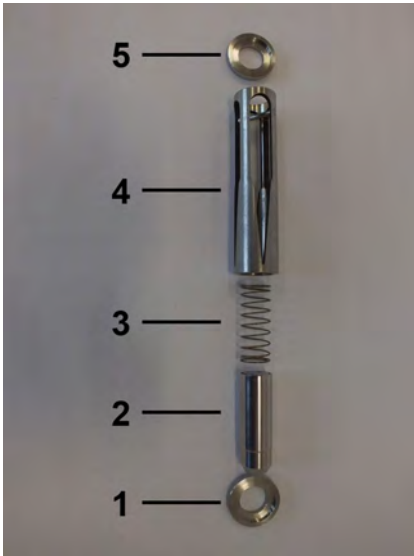

Fig. 40: Inner parts DUM
**5.** The inner parts of the flow monitor consist of the centering disc (inlet) (Fig. 40/1), float (Fig. 40/2), spring (Fig. 40/3), slot nozzle (Fig. 40/4) and centering disc (outlet) (Fig. 40/5).